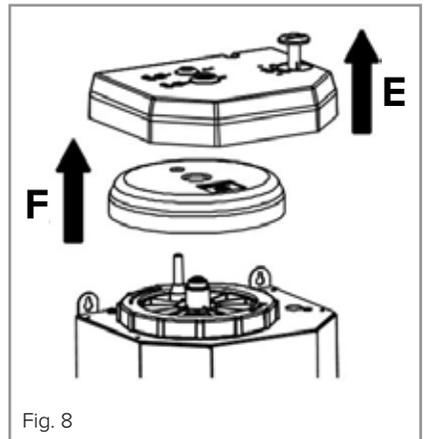

Fig. 8
Lift up and remove the boiler lid (E) with temperature control dial and the styrene insulation (F) as per Fig. 8.
Replace the styrene insulation (F in Fig. 8) and then the boiler lid (E in Fig. 8). Replace the temperature adjustment knob here too (Fig. 15). This may be quite fiddly to get the knob properly seated but you must ensure that it has engaged with the spindle below.